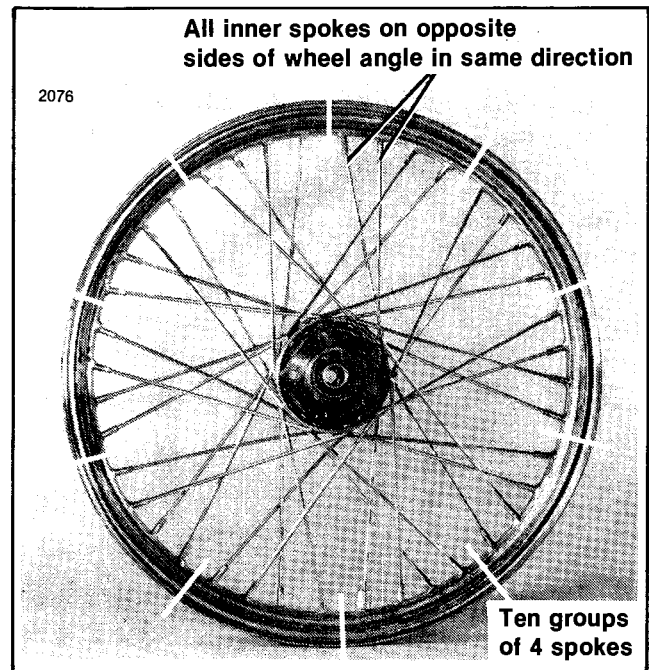

Figure 2. Laced Wheel
4. See Figure 2. The rim is divided into ten groups of four spokes each. In each group, only one hole will be angled toward each upper flange inner spoke. Insert the spokes into these holes. Secure each spoke with a nipple screwed on the end about three turns, just enough to hold it in place.